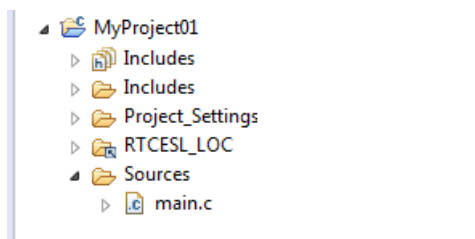

Figure 1-18. Projects libraries paths
5. Click Finish, and you will see the library folder linked in the project. See Figure 1-18.